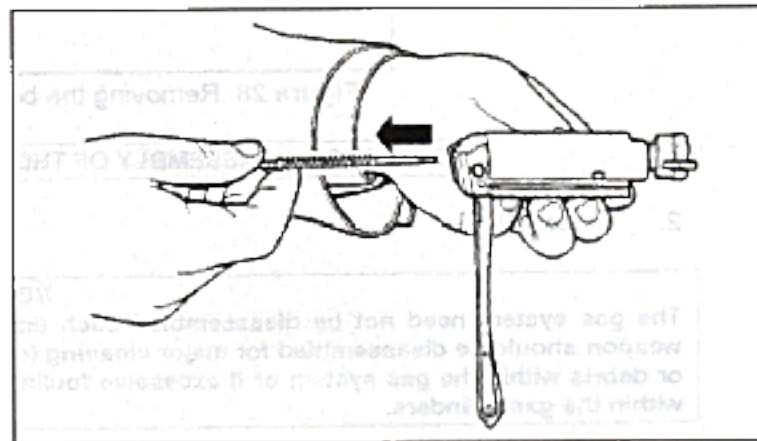

Figure 26. Removing the firing pin and spring
- B. **Remove firing pin and firing pin spring** – Lift the firing pin with firing pin spring out of the recess in the rear of the bolt carrier (Figure 26).